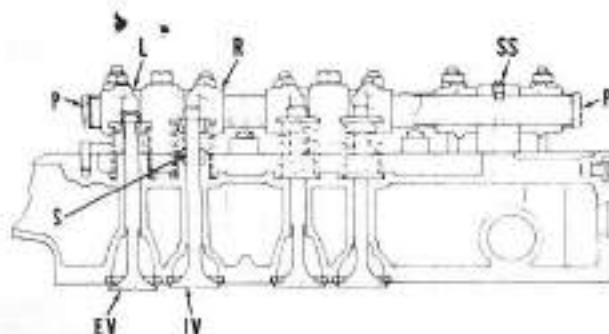

Fig. 37—Cut-away view showing rocker arm and valve installation in three-cylinder engine; four-cylinder engines are of basically similar construction.
To disassemble, remove the brass plug (P-Fig. 37) from each end of shaft and withdraw the rocker arms, springs and shaft brackets and place them in order as they are removed. Rear bracket has shaft retaining set screw (SS).
retain screw tightly and complete reassembly. Right-hand (R) and left (L) rocker arms are installed in pairs at each support bracket with offset ends towards each other as shown in Fig. 37.
69. Special intake valve stem seals (S-Fig. 37) may be fitted into a counter bore at top of guide on some engines. Since the groove in top end of valve stem will damage the seal as valve is removed, it will be necessary to install new seals as follows: